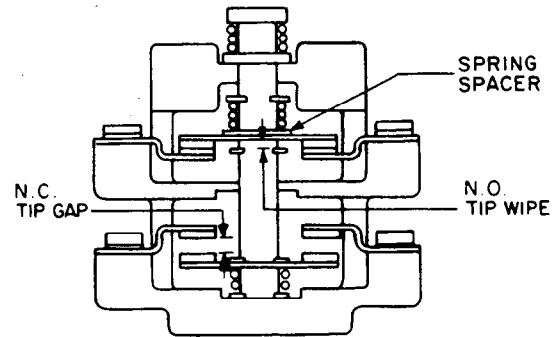
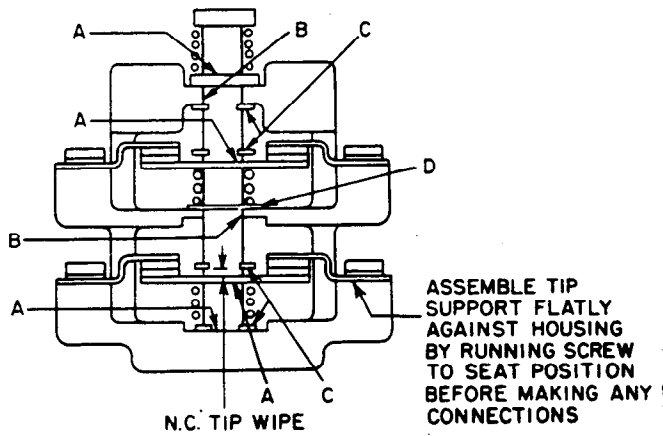

Figure 9. Universal electrical interlock with one set of normally open contacts and one set of normally closed contacts in the operated position.
Figure 10. Universal electrical interlock with normally closed contacts in unoperated position.
A universal interlock (Figure 9) having one set of normally open contacts and one set of normally closed contacts must be adjusted so that with one set of contacts just touching, there is at least 1/64 inch of gap between the other set of contacts.
To change an interlock from normally open to normally closed or vice-versa, disassemble the movable contacts in the manner described above and turn the contact over. The contact, spring, spring spacer, and keys should be reassembled as shown in Figures 9, 10,
When circuits are rearranged to obtain one normally open and one normally closed circuit, the normally closed circuit must be located at the bottom, as shown in Figure 9. Otherwise, electrical creepages will not be maintained. (Note that Figure 9 is shown in the operated position).
Spring ends must not protrude into holes (A), slots (B), or keys (C), which serve as guides for the operating arm. See Figure 10.
Contact blocks with two normally closed circuits require a spring spacer (D) as shown in Figure 10 to ensure that the center spring is properly in place. Because of the circuit rearrangement feature, a spring spacer is supplied with all other two-circuit contact blocks, as shown in Figures 9 and 11.
(Per Figures 9, 10, & 11)